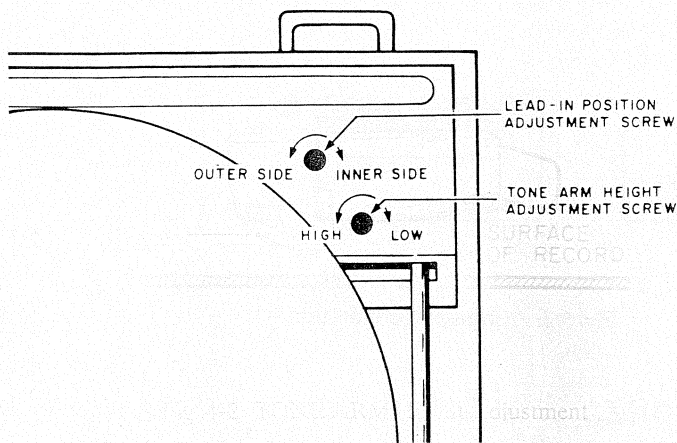

Fig. 4-1 Mechanical adjustment points
### 4-1. TONE ARM HEIGHT ADJUSTMENT (Refer to Fig. 4-1 and 4-2)
### 4-2. LEAD IN POSITION ADJUSTMENT (Refer to Fig. 4-1)
- 3) If the lead-in position is incorrect, it can be adjusted by turning the LEAD-IN ADJUSTMENT SCREW clockwise or counter clockwise as shown Fig. 4-1.